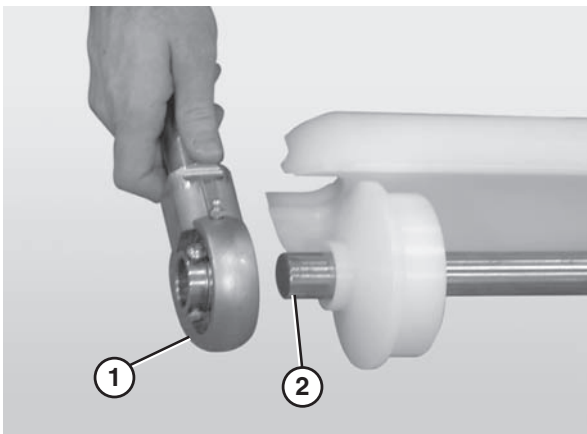

Figure 75
5. Slide the bearing shaft assembly (**Figure 75, item 1**) off the idler shaft (**Figure 75, item 2**).